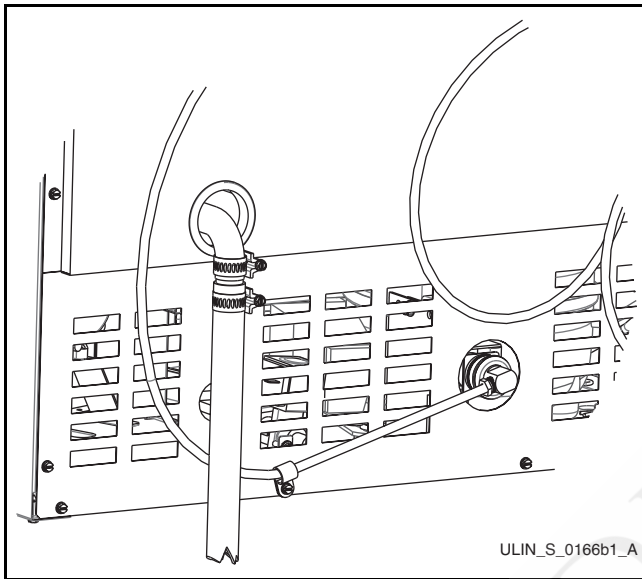

Figure 12
3. Attach the copper water line to the back of the unit using the supplied clamp and the back panel screw (**Figure 12**, CLR2175 model shown). This will prevent rotation of the line when moving the unit.